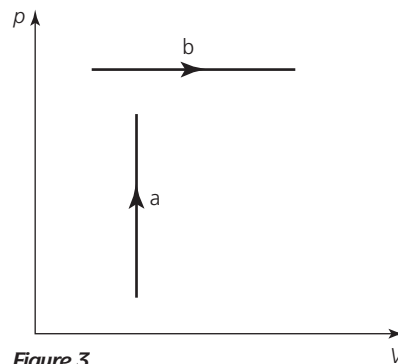

Figure 3
- c. See Figure 3.
11. See Figure 3.